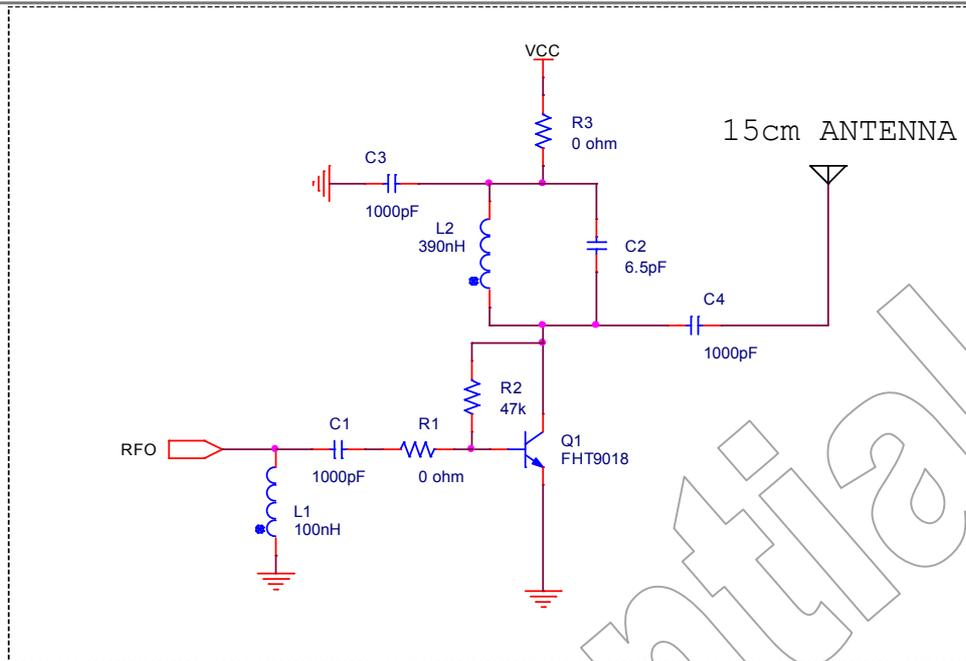

Figure 10. External PA Reference Circuit for 15cm Antenna
***Note: in the Figure 10, RFO connects to the pin-5 of QN8027 directly.**